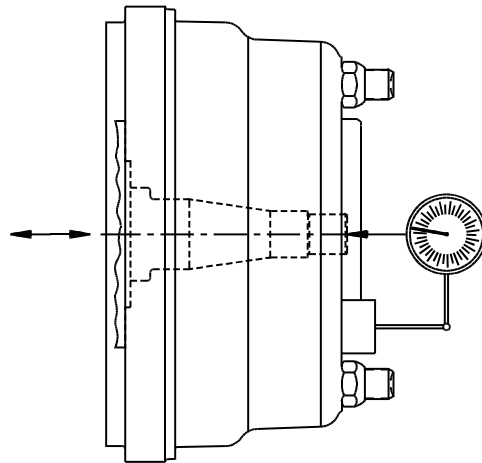

Figure 10 - Wheel End Play Measurement
5. Place the tip of the dial indicator on the center of the steering knuckle spindle. Set the dial indicator on zero. (Figure 10).